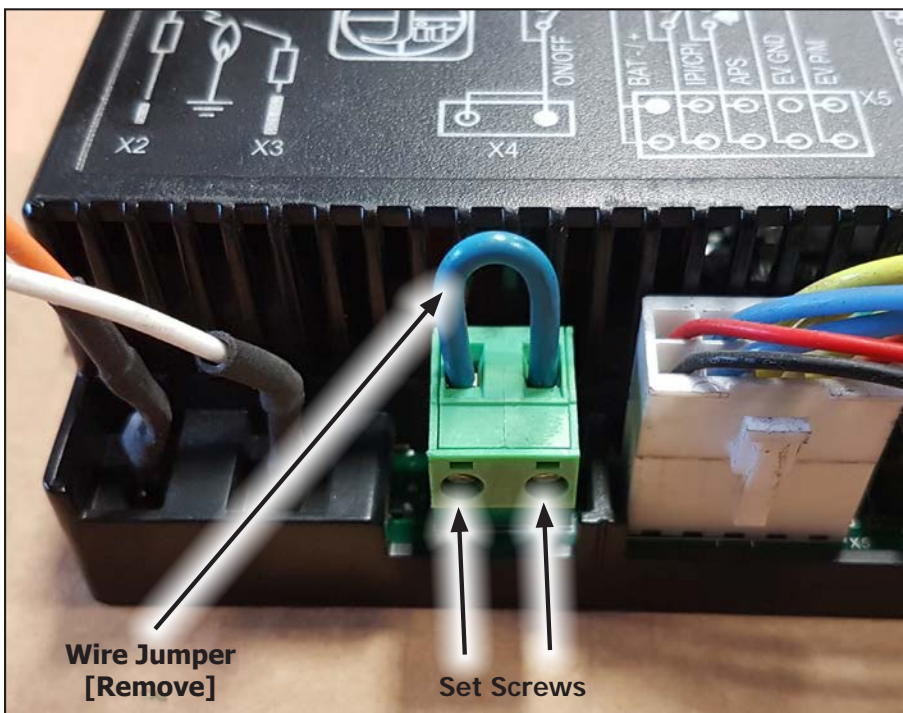

Figure 44: ON/OFF Terminal Block on IFC
Step 3: Remove the ON/OFF terminal block from the X4 port on the IFC (Figure 44).
2. Disconnect the spill switch wires from the IFC (see Figures 44 & 45).